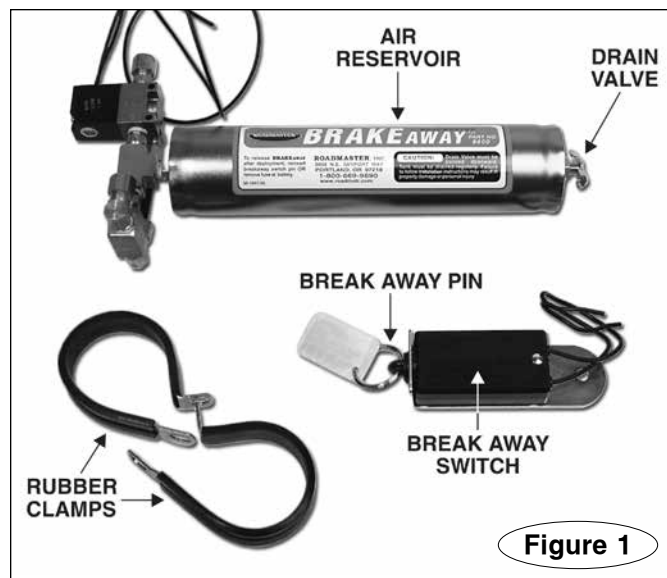

Figure 1
1. First, choose a location for the air reservoir (Figure 1). The air reservoir is mounted in the towed vehicle, most often in the engine compartment, but it may be attached anywhere an air line can be routed from the top of the air reservoir to the front of the vehicle, and where the drain valve (Figure 1), at the bottom of the reservoir, is easily accessible.
2. Once you have chosen a location for the air reservoir, fold the two rubber clamps (Figure 1) over the cylinder. Press the ends of each clamp together, until the pre-drilled holes align.
1. Mount the break away switch (Figure 1) at the front of the vehicle, on the driver's side. Choose an area you can easily reach, with a surface of sufficient strength to
hold the switch firmly in place, so that the break away pin (Figure 1) will pull freely from the switch. Mount the switch in a horizontal position, with the break away pin facing toward the motorhome.